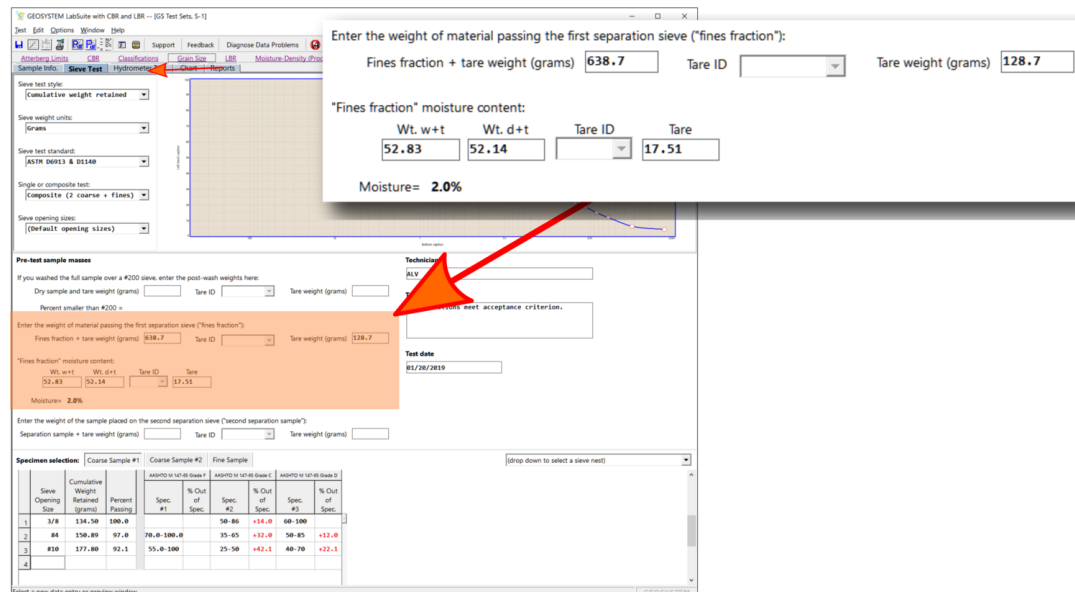

Figure 3.14: D6913 Fines Mass
- The mass of the material passing the first separation sieve. This is the "fines fraction" mass called out in Figure 3.14.
- If the sample is not dried, a moisture content test on the material passing the first separation sieve is required. (This is the "Fines fraction" moisture content called out in Figure 3.14.